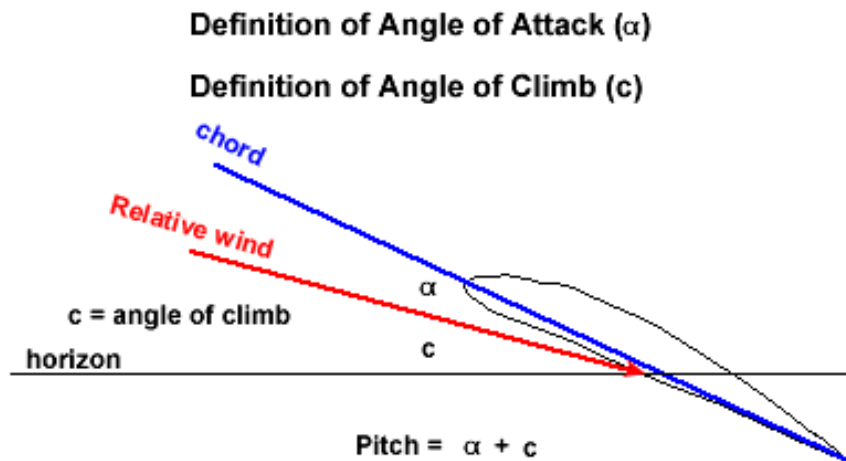
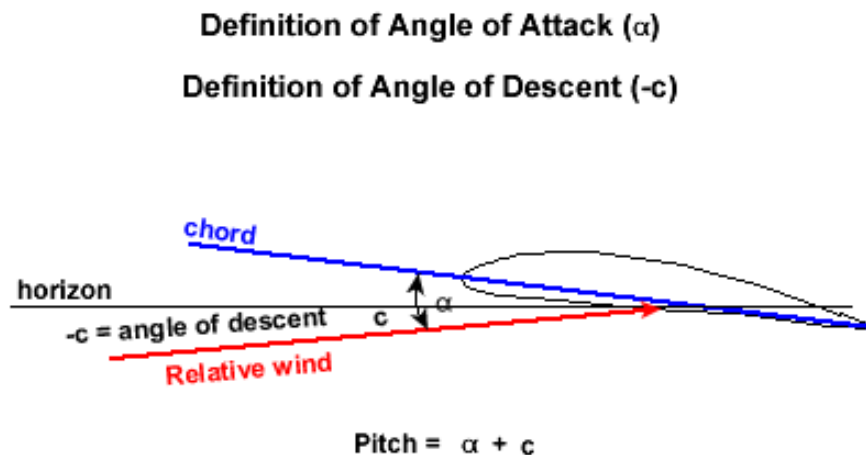

Figure 18
Figure 19
**Angle of attack ( $\alpha$ )** is the angle between the chord and the relative wind, expressed in degrees.  $\alpha$  is negative if the chord line is below the relative wind. Don't confuse  $\alpha$  and pitch attitude; that is a common mistake. The aeroplane in Figure 18 is climbing. It has a large pitch attitude but small  $\alpha$ . The aeroplane in Figure 19 is descending. It has a negative angle of climb but a positive  $\alpha$  and pitch attitude.